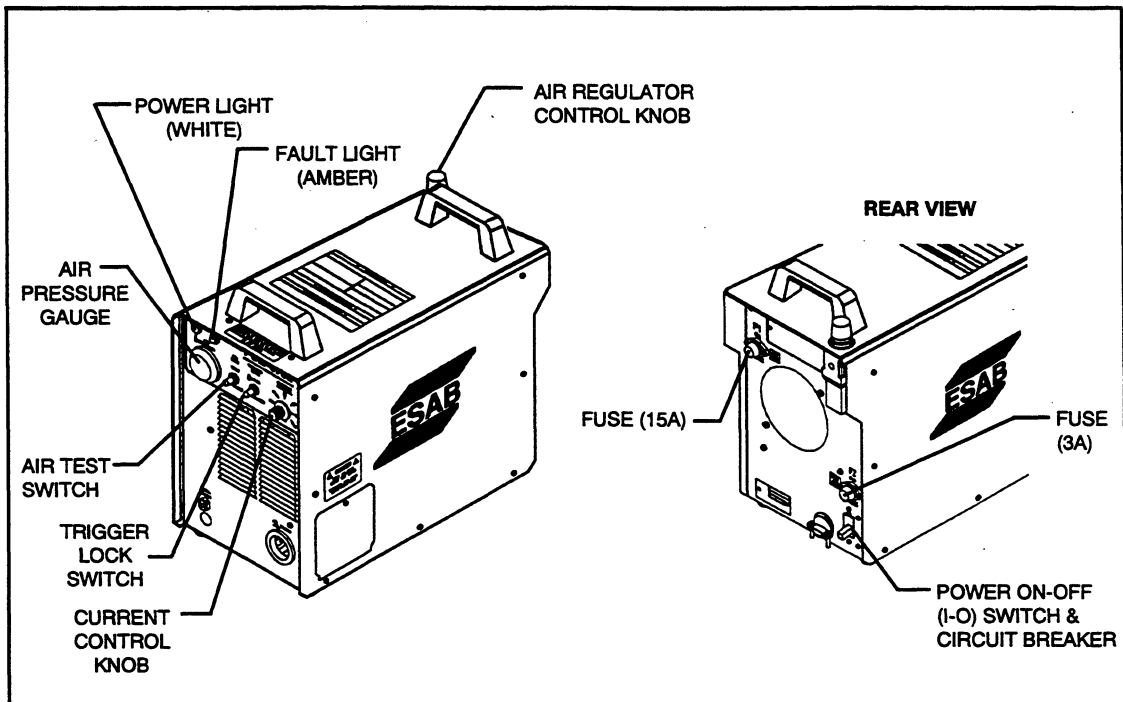

Figure 3-1. PCM-875 Controls
3.2 PCM-875 CONTROLS (FIGURE 3-1)